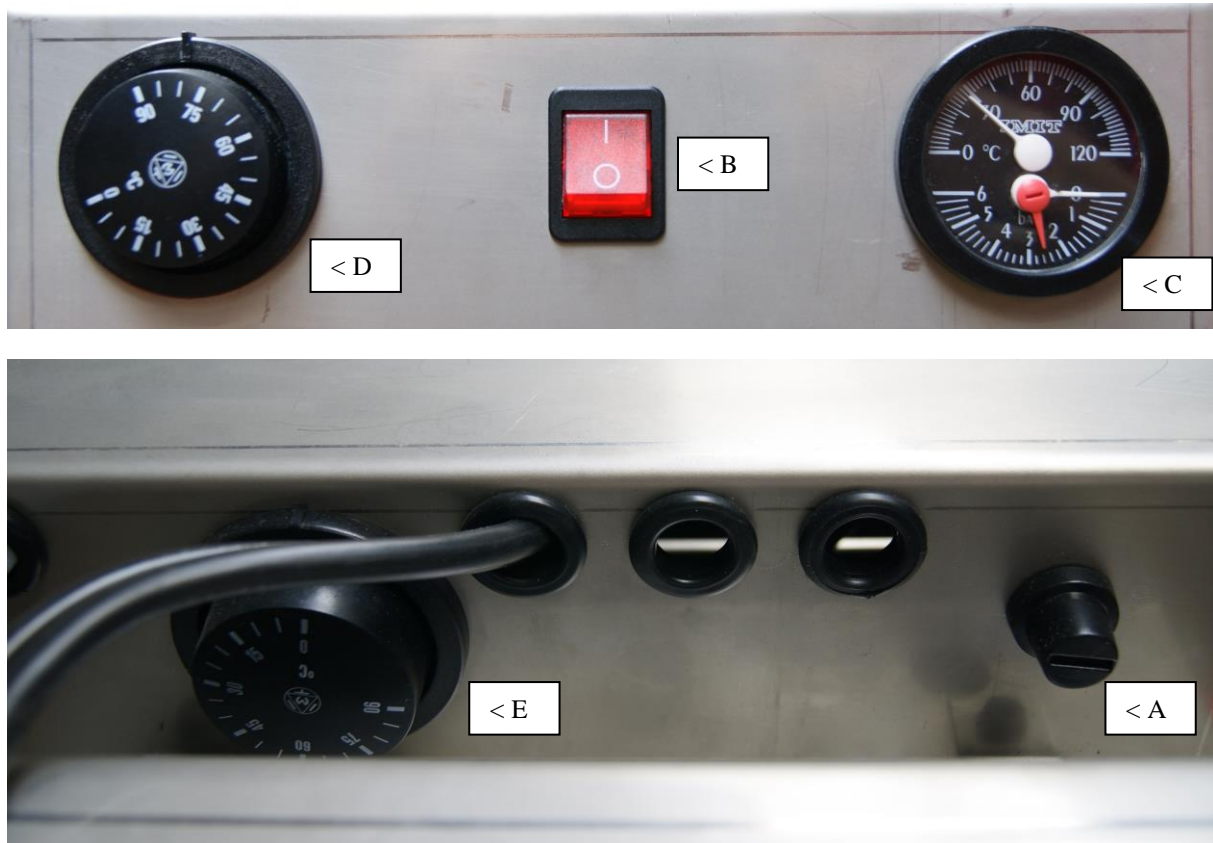

Figure 11
1. Switch off the boiler (figure 11);
6. Close the valve (5);
1. By pushing nob (D) from figure 11 you can set the boiler temperature.
Explanation from the number in the figure 11: